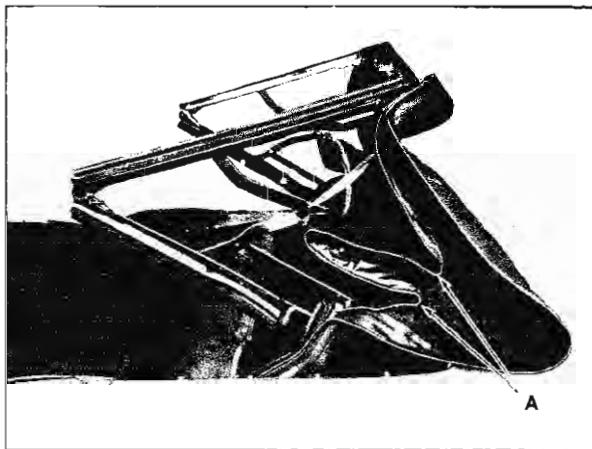

Fig. 21-5 Pull Padding From Between Arms
A. Actuate power top control switch until front top rail is approximately two feet from full down position (Fig. 21-5).
B. On right and left side of body, pull top material and padding "A" from between operating arms of top (Fig. 21-5).
C. Pull top material and padding "A" from between operating arms of top as shown in the illustration (Fig. 21-5).